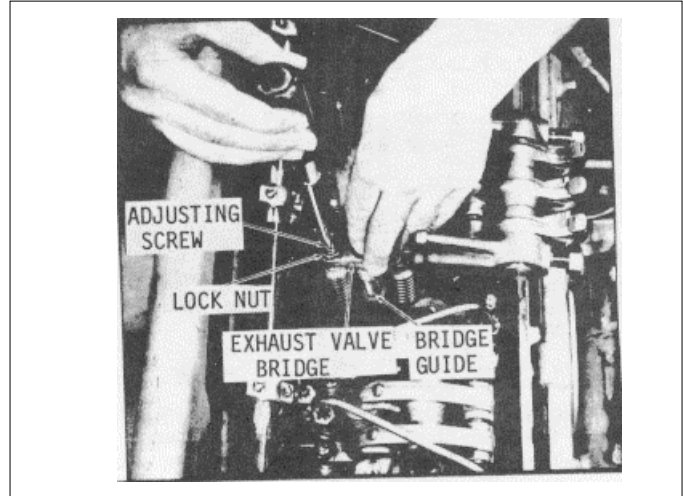

Fig. 1. Bridge Balancing Adjustment
- (1) Remove the loose dirt from the exterior of the engine and remove the valve rocker cover. Remove the injector fuel pipes and the rocker arm bracket bolts. Move the rocker arms away from the exhaust valve bridge.
- (2) Remove the exhaust valve bridge (Fig. 1).
- (3) Place the bridge in a vise or holding fixture J 21772 and loosen the locknut on the bridge adjusting screw.